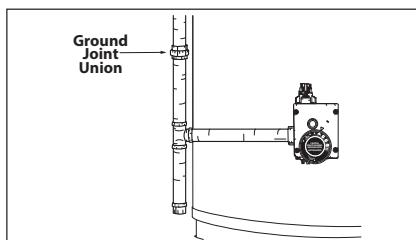

Figure 52 - Ground Joint Union
- 6** Disconnect the ground joint union in the gas piping. Disconnect the remaining piping from the White Rogers thermostat gas control valve/thermostat (See Figure 52).